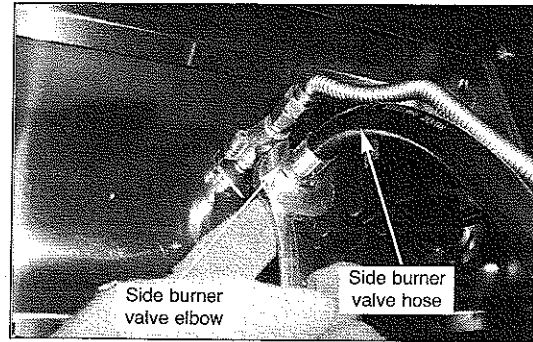

Fig 1
1. Use a 3/4" wrench disconnect the hose from the side burner valve and pull the hose back into the cart. (See Fig. 1)
26. Attach the other end of the hose to the side burner valve. Tighten with wrench. (See Fig. 1 on Page 2)